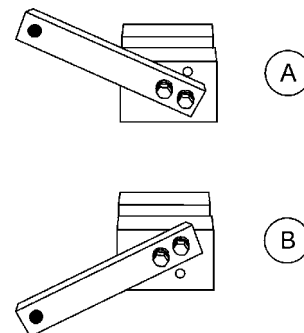

Figure 43. Trowel Arm Adjustment Setup
2. Ensure the fixture arm is in the proper setting (up or down) for your trowel arm rotation as shown in Figure 43.
Arms with CLOCK-WISE blade rotation use the fixture arm in the UP position (A in Figure 43). Arms with COUNTER CLOCK-WISE blade rotation use the fixture with the fixture arm in the DOWN position. (B in Figure 43).